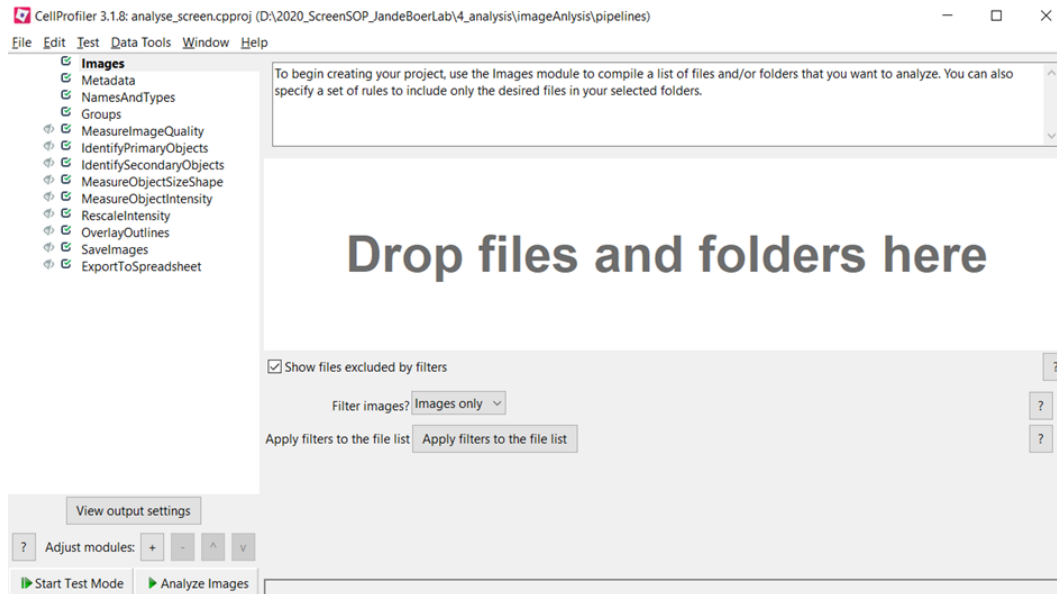

Figure 4: CellProfiler interface showing the area to drop and upload your images into the CellProfiler pipeline.
1. First, we need to upload the images to the Cell Profiler pipeline. Therefore, you have to go the folder with the cropped images (created in step 4.4.1). To upload the cropped images, drag and drop them in the corresponding area in CellProfiler (Figure 4).